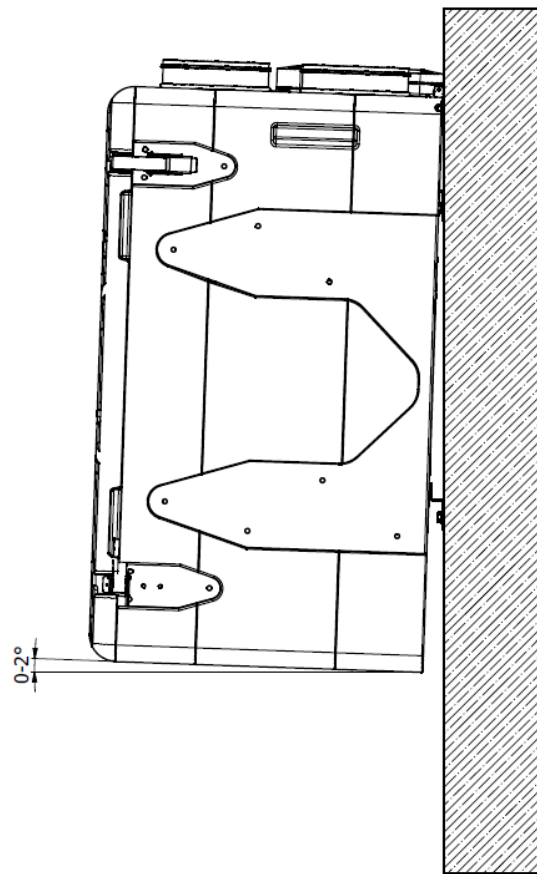

Figure 15 – maximum level deviation
- Level unit according to figure 15.